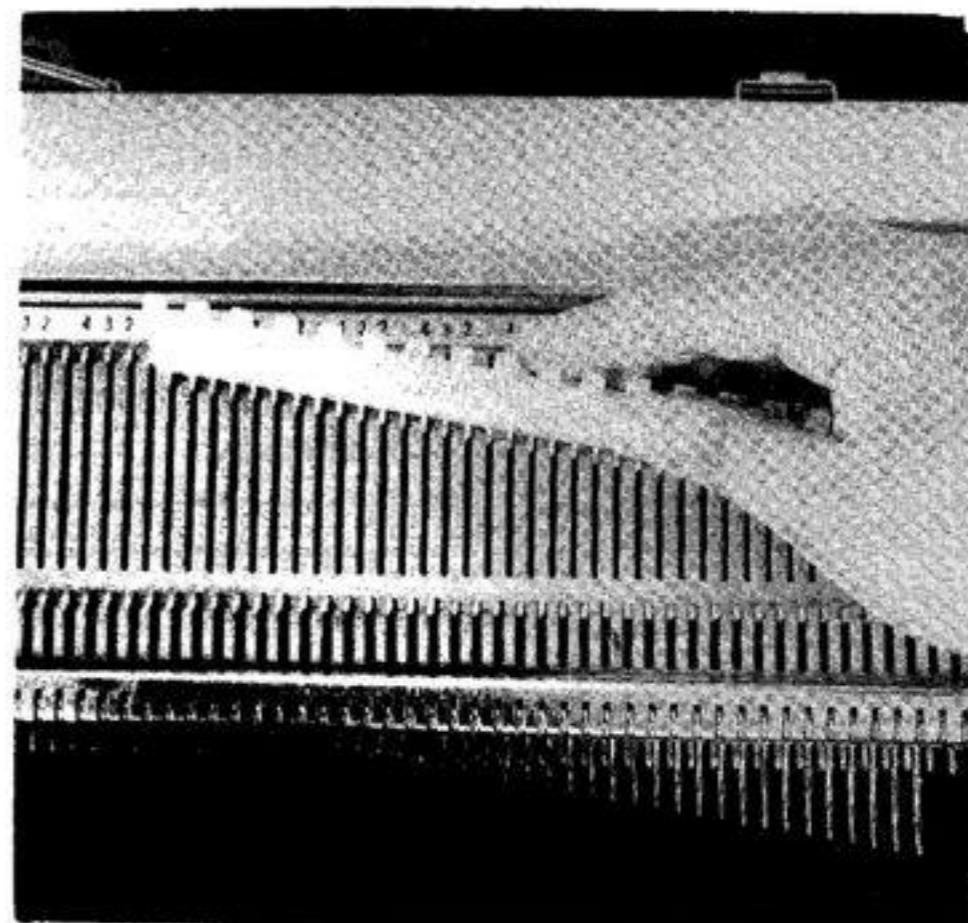

Fig. 30
- h) Bring forward, using the straight edge of the Needle Selector Plate (Item 14, Fig. 4) — the number of needles required (see Fig. 30) — say 40 — into Holding Position (E).